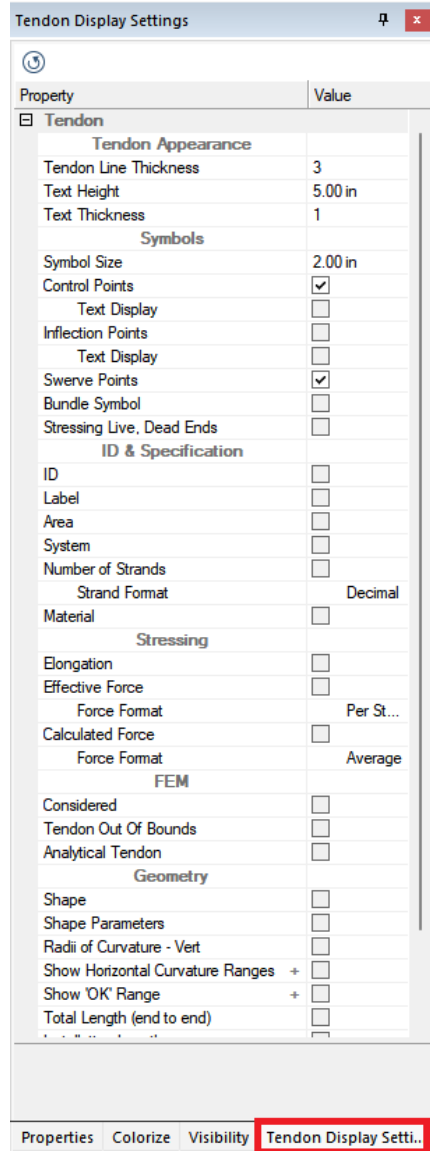

FIGURE 9-41
- Drag the window into the middle square of the docking icon and let go of the left mouse button to place the *Tendon Display Manager* with the *Properties*, *Visibility*, and *Colorize* grids. Notice that there is now a tab at the bottom of the grid for the *Tendon Display Manager* as shown in **FIGURE 9-41**.